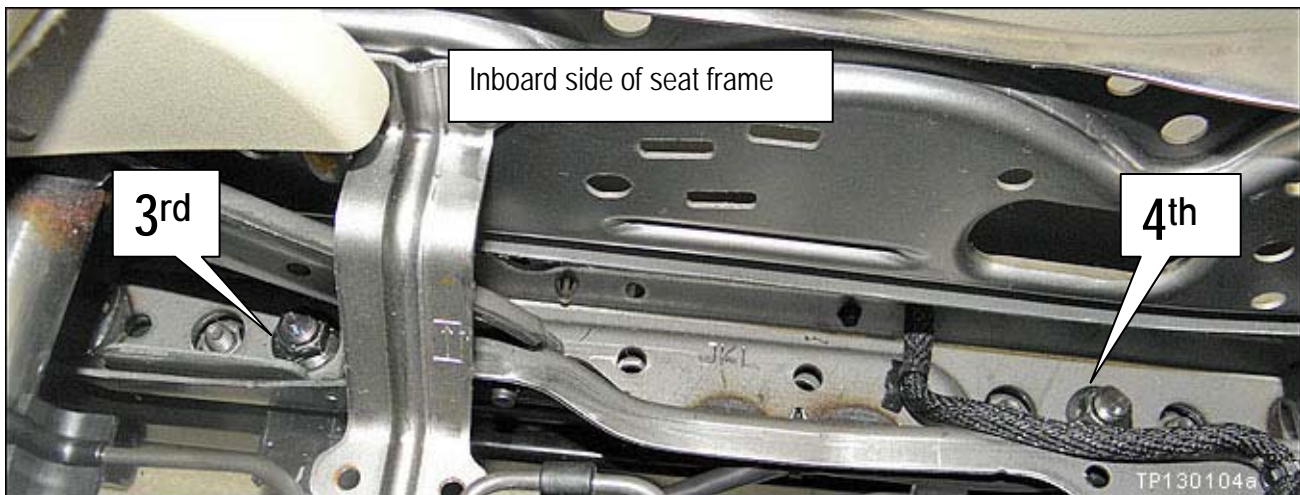

Figure 23
- Torque the nuts in the order shown in Figures 23 and 24.